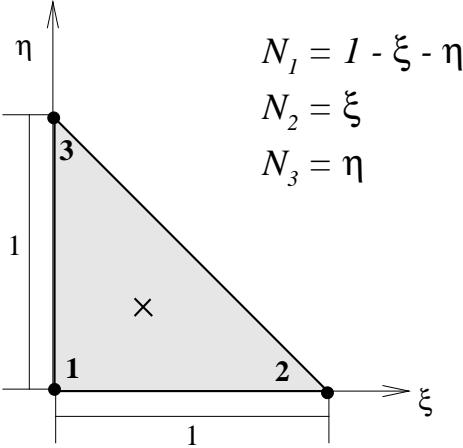

Figure 1: Parent element and shape functions used in the QC method.
- **shp(nsdp, numel):** (double precision) Shape functions. The QC method uses three-node linear elements, thus there is only one Gauss point at the centroid of each element. The isoparametric formulation is used, with the parent element, local node numbering and shape functions as shown in Fig. 1. More information on the finite element formulation can be found in, for example, [12]. For each element *i*, the following is stored in **shp**: